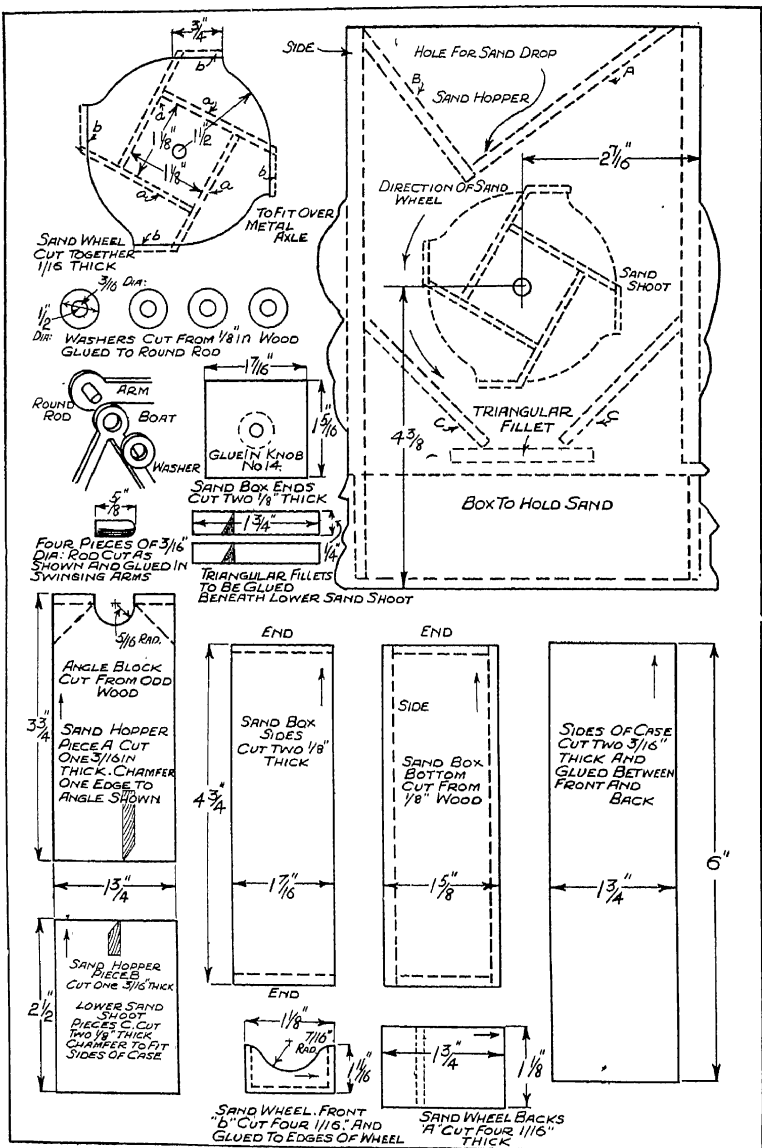

FIG. 3
Now make up the wheel itself, using  $\frac{1}{8}$ -inch pieces throughout. Two shaped sides are fitted over the pieces which form the scoops or buckets for the sand. The completed wheel is shown in Fig. 3, but one side has been purposely omitted to make the actual construction clearer. Be careful to see that the wheel blades A are glued at right angles to the sides, and to each other, so that a perfect square is formed round the central axle opening. To make a better scoop, the small pieces (B) which form the front of the box are glued to the blades themselves and on to the sides of the wheel. The axle which passes through the centre of the wheel should fit it quite tightly, and a liberal supply of glue added round the outside of it will give further strength.
C which form the chute. When the sand has left the box, it runs down this chute into the drawer at the bottom. This drawer can be taken out, and the sand returned to the hopper above. The two chute pieces can be seen in Fig. 3, and—as in the case of the hopper—fillet pieces are glued to the back and front to carry the sand towards the central hole. These fillet pieces are cut from  $\frac{3}{8}$ -inch wood, and have the top face sloped down towards the hole before they are glued in place on the back and front. A picture of the drawer into which the sand falls is shown at Fig. 5. It is made of five parts all cut from  $\frac{3}{8}$ -inch wood. The two sides are glued on the bottom, and then the two ends put between. Little corner blocks can be added inside if required to give strength. Each end of the drawer is provided with a small knob to make it easy to take out from the model. In constructing the drawer,
The swinging-boat arms are completed in the same manner, but have the addition of the loose boats which hang at the ends of them. At the end of each arm is glued a  $\frac{1}{2}$ -inch length of  $\frac{3}{8}$ -inch round rod. The swinging boat itself hangs on this rod, and must have the hole cut at the top sufficiently large to allow it to swing easily as the arms rotate. The boat is prevented from slipping off by a small wooden washer cut from  $\frac{3}{8}$ -inch wood and glued to the end of the projecting rod (see Fig. 3). When the arms go round, the weight of the boat should be sufficient to keep it always level. A realistic effect is obtained if the picture is coloured in with water paints or poster colours.